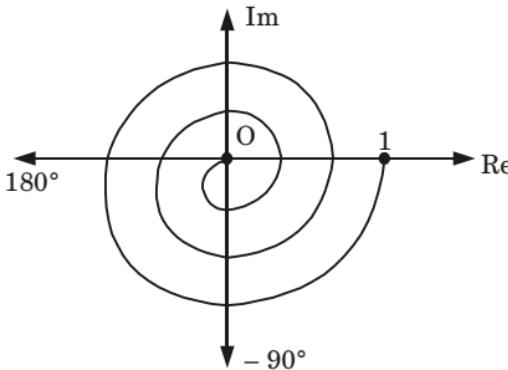

Fig. 12.
4. Here the magnitude decreases from unity monotonically and the phase angle also decreases monotonically and indefinitely, the polar plot of the given transfer function is spiral as shown in Fig. 12.